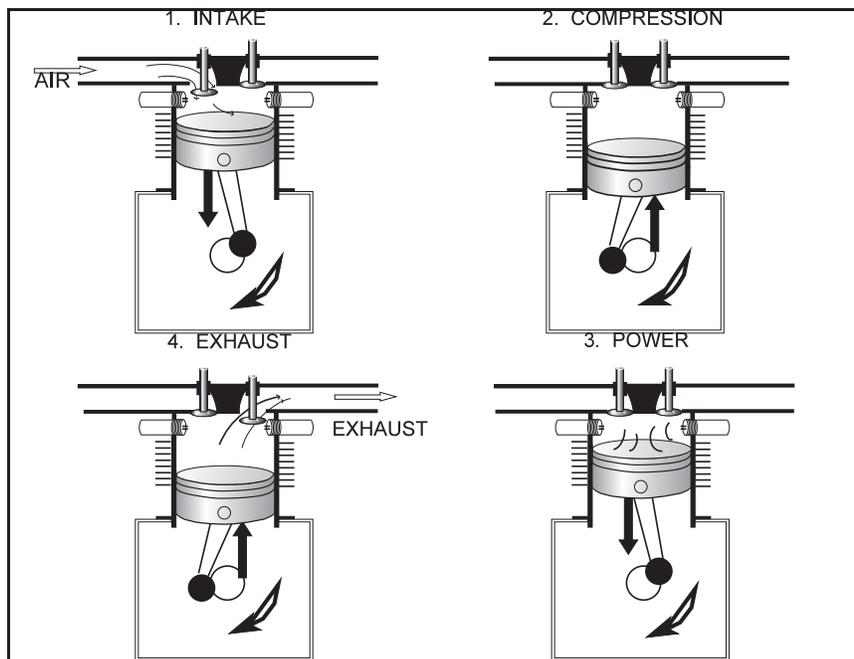

Figure 1. The four-stroke cycle engine.
The basics of the Otto cycle spark ignition engine are shown in Figure 1. During the intake phase, the rotation of the crankshaft pulls the piston down in the cylinder. With the intake valve open, a fuel/air mixture flows into the cylinder, due to the difference in pressure between the intake manifold and the interior of the cylinder. Picture it this way: If the intake valve were stuck shut, the downward motion of the piston in the cylinder would create a partial vacuum in the cylinder, so with the valve open, the mixture will be drawn into the cylinder.
We begin with some facts. Later we will get into theory and operational issues. Continental prints an interesting graph in its IO-550 Operator's Manual. The graph is redrawn here in Figure 1. As you look at this graph, imagine that we do an experiment while flying a Continental IO-550 in a Beech Bonanza or Baron. We set the MP at 24 inches and the RPM at 2300, and then we gradually lean the mixture from full rich to the point of lean misfire. The fuel flow, shown on the horizontal axis, falls from about 97 pounds per hour (pph) to about 62 pph. Our airplane is very well instrumented, and as we lean we watch the readout on four engine instruments: EGT, CHT, BHP, and BSFC. EGT is exhaust gas temperature. CHT is cylinder head temperature. BHP is brake horsepower. And BSFC is brake specific fuel consumption—the number of pounds of fuel being burned per hour divided by the present brake horsepower. The curves in Figure 1 show the four engine readings as we sweep through the various fuel flow values from rich to lean looking right to left. If you did this same experiment at other power settings or with other engines, you would see the same basic pattern, so we will take a closer look.
The photo on the previous page shows a cutaway view of one of the smaller versions of the PT6A. Figure 1 shows a highly simplified line drawing of the PT6A. Air enters near the rear of the engine and is directed to a three-stage axial compressor. An axial compressor is like a house fan; it moves air parallel to its axis of rotation. It is called "three-stage" simply because there are three of these compressors in a row. (Larger versions of the PT6A have four axial compressor stages.) Air leaving the third axial compressor is routed to a centrifugal compressor which pushes the air outward and then forward toward the combustion chamber. The centrifugal compressor and three (or four) axial compressors are mounted on a common shaft that extends forward to the compressor turbine and aft to drive the accessories. The engine employs a compressor for the same reason a piston engine has a turbocharger and a compression stroke, that is, to enable the engine to generate more power with greater efficiency.
Imagine the following wind tunnel experiment. We take a 5300 pound twin engine airplane, something like an E55 Baron, and attach it as shown in Figure 1. The plane is secured at its center of gravity (cg) by a brace that runs down through a pivot on the floor to a pendulum-type weight below the floor. If we went into the wind tunnel and pushed on the nose, the airplane would move back (or to the right in the picture) and the pendulum weight would swing up and left. Assume that we have some means of controlling the angle of the airplane relative to the brace in order to control angle of attack. A cable runs forward from the brace/cg connection, over a pulley, and down to a tray that holds weights. What we are going to do is turn on the wind, set the angle of attack to get 5300 pounds of lift, and then put enough weight in the tray to keep the brace vertical. The amount of weight needed will tell us the drag of the airplane at the current wind
Suppose your plane requires 146 thrust horsepower (THP) to fly straight and level at 100 KCAS. We could say then that your "thrust horsepower required" (THPr) at 100 KCAS is 146. The amount of thrust horsepower required with the airplane in a given configuration is primarily dependent upon airspeed. At low airspeeds you need a lot of power to overcome induced drag, and at high airspeeds you need THPr to overcome parasite drag. This produces a U-shaped THPr curve, as shown in Figure 1. If you were flying straight and level at 100 KCAS and you pushed the throttles up enough to add 100 THP to the 146 you already have, what would the airplane do? The added energy has to show up somewhere, but where?
Normal takeoff distance. Figure 1 shows a generic takeoff distance planning page. Let's say we are planning to take off at an OAT of 30° C at a pressure altitude (PA) of 5000 feet. We begin at point A, where the OAT is 30° C, and read up to the 5000 foot pressure altitude line at point B. If we are at maximum gross weight and there is no wind, we can read all the way to the right from point B to point C and find that our takeoff ground roll will be about 2250 feet. Looking back again to the left section of the figure, we see that both high temperature and high pressure altitude have the effect of raising point B and increasing the takeoff distance. There are several reasons for this: (i) Both high pressure altitude and high temperature act to reduce air density. In a normally aspirated airplane, the low air density will reduce maximum power output from what it would be at sea level, retarding the airplane's acceleration during takeoff and
Figure 1 shows the layout of a generic pressurization system. A line tees in between the turbocharger compressor and the intake manifold and bleeds compressed air past a dump valve, through a restrictor called a "sonic